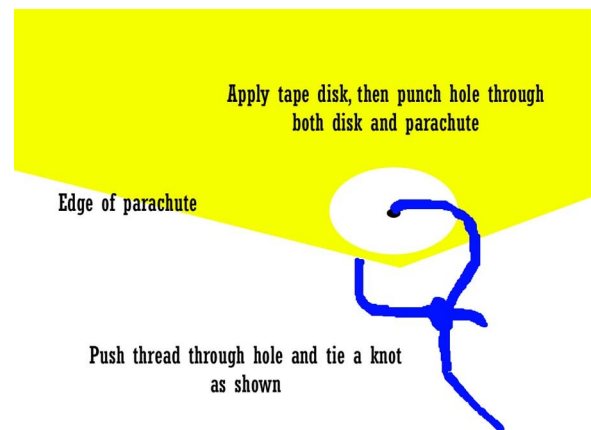

Figure 9
- **Step 47** If you are using a pre-assembled parachute, skip to the next step. Assemble the parachute as shown in its included instructions, but modify the shroud attachment method as shown in Fig. 9 above.